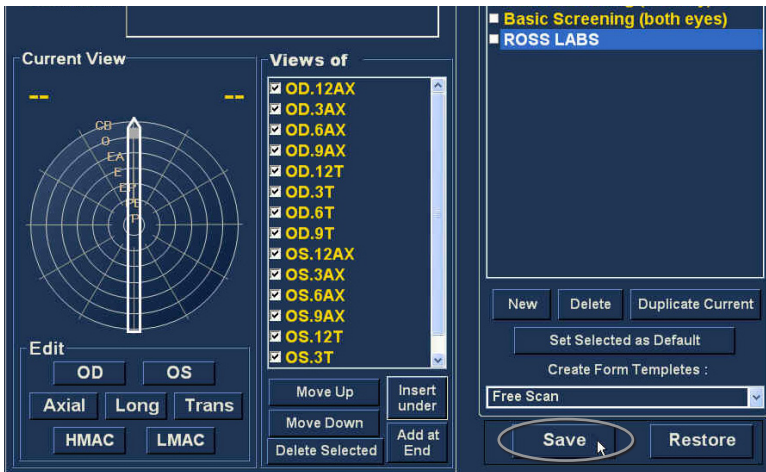

Figure 4.24 - Saving New Sequence
6. Continue to add and define new sequence scans as previously described. When your sequence is complete and ready to save click on the "Save" button as shown in Figure 4.24.